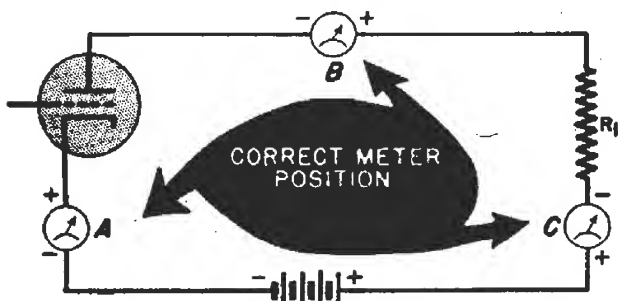
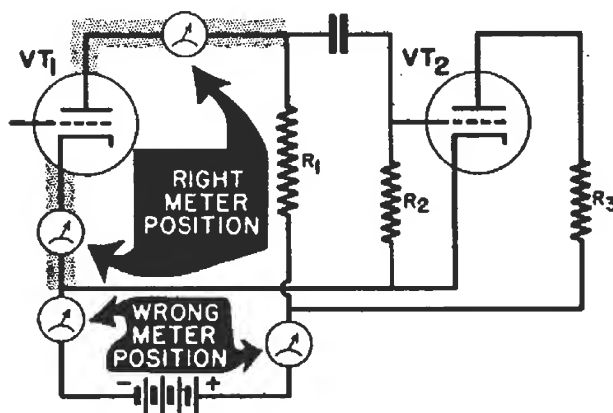

FIG. 8. Be sure to place a current meter in series and use the proper polarity.
FIG. 9. The right meter position is important.
2. Correct Point. In the simple circuit shown in Fig. 8, the meter may be placed anywhere in the circuit. The meter readings at *A*, *B* and *C* will be the same, because the same current flows through the entire circuit. However, when checking screen-grid or pentode tubes another problem arises. The screen-grid current also flows in the cathode lead in returning to the B supply. Hence, the plate current alone
When more than one tube is used, as shown in Fig. 9, notice there are now two paths for current, one for each tube. If you want to measure the plate current for tube VT_1 only, be careful to locate a point where *only* the plate current of this tube is flowing. The cathode lead of tube VT_2 may connect
directly to the cathode of VT_1 and the B+ ends of resistors R_1 and R_3 may be directly connected together, so positions such as *A* and *C* of Fig. 8 may not be usable. The shaded areas of Fig. 9 show the proper places to measure the plate current of VT_1 . You must be sure to insert your meter where only the *desired* current is flowing. Otherwise, false readings will result. The meter may even be damaged if the sum of the currents exceeds the meter range you have chosen.
3. Current Range. The current range of the meter must be higher than the expected current; otherwise, the meter may be badly damaged or even ruined. The circuit current is determined by Ohm's Law, $I = E/R$, where R is the total of all the resistance in the circuit. In a circuit like Fig. 8, with a fixed supply voltage, the tube plate resistance plus resistor R_1 determines the current flow. The current will be about 5 to 10 ma. if this is an ordinary amplifier tube. However, if the tube or resistor R_1 is short-circuited in some
back to Fig. 8 where the correct meter polarity is indicated. When a tube is in the circuit, it acts as a signpost, showing the direction of electron flow through the entire circuit. Electrons, of course, flow only from the cathode of a tube to its plate and continue to flow in the same direction through the rest of the circuit. To make the meter needle read up-scale, the electrons must *enter the negative meter terminal*. Should the meter connections be reversed so the electrons enter the meter terminal marked +, the meter needle will read down-scale.